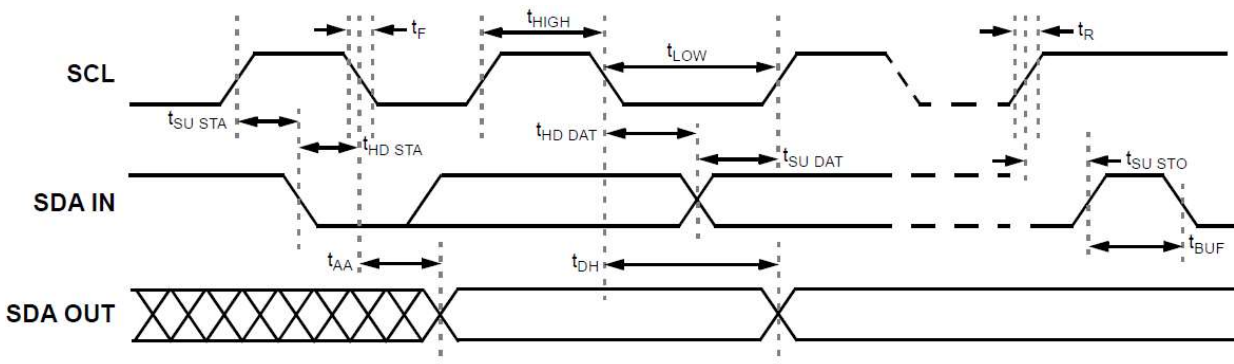

Figure2. I2C Serial General Timing
**Note 1** Timing diagram can be found in the Figure 2.
Shown in Figure 2 is the general timing characteristics for the I2C Serial Communications block.